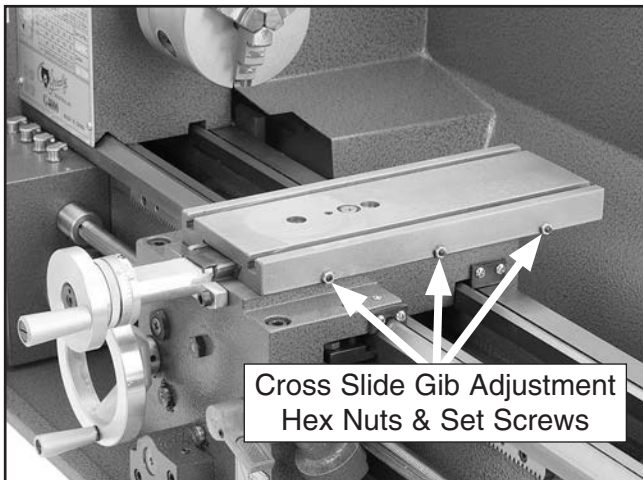

Figure 82. Cross slide gib adjustment hex nuts and set screws.
2. Loosen the three hex nuts on the side of the device (see **Figures 82–83**).